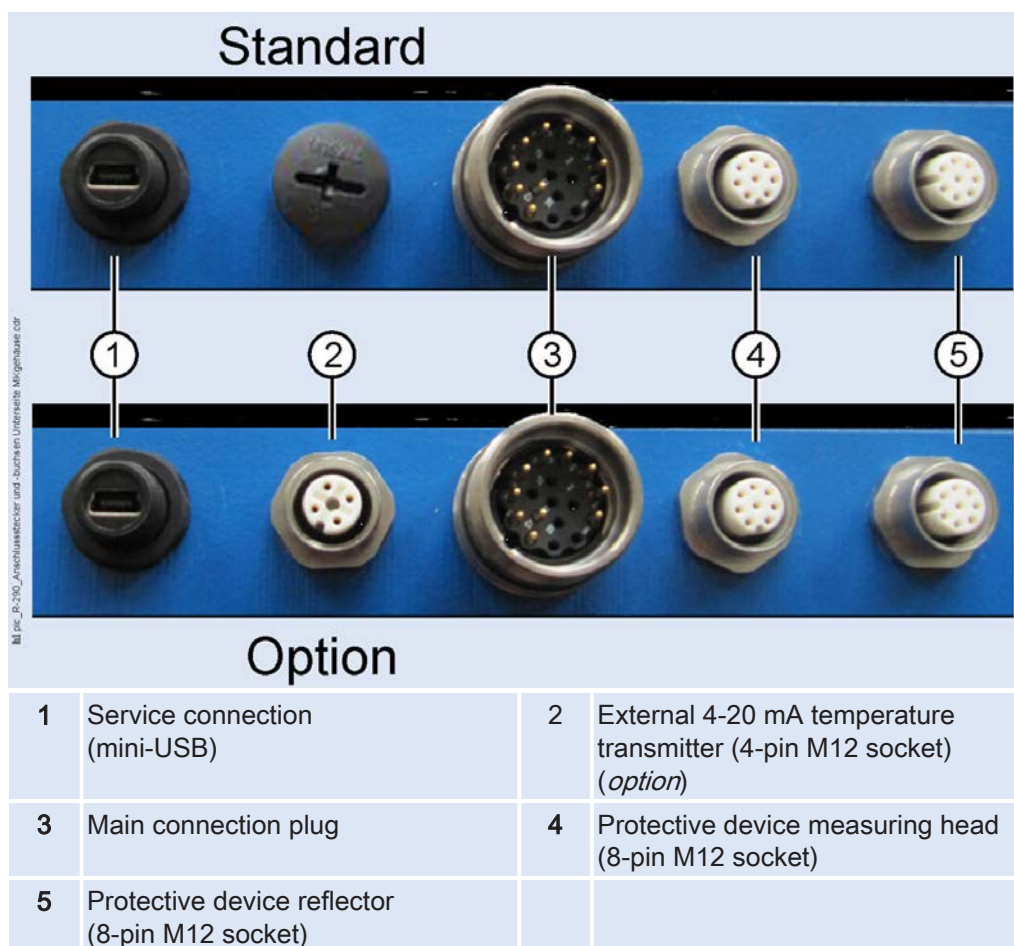

Fig. 5.12: Connection plugs and sockets on the underside of the housing
Depending on the configuration, the measuring head of the D-R 290 has up to a maximum of 5 connection plugs on the underside of the housing (see Fig. 5.12).
The D-TB 100 supply unit or the control unit D-ISC 100 is connected at the main connecting plug (item 3 in Fig. 5.12). This connection is described in section [5.6.1 Connecting the supply and control unit \[► 96\]](#).
The connection of the protective device for the measuring head at the socket item 4 (Fig. 5.12) and the protective device for the reflector at the socket item 5 is described in sections [5.5.4 D-SK AE electrical connection \[► 88\]](#) (Fig. 5.22 and Fig. 5.23).